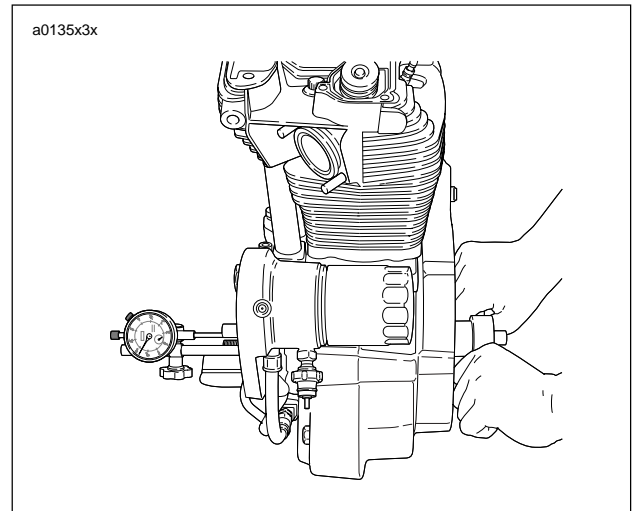

Figure 3-109. Checking Flywheel End Play
3. See Figure 3-109. Attach a dial indicator to gear side crankcase with indicator stem on end of gearshaft.